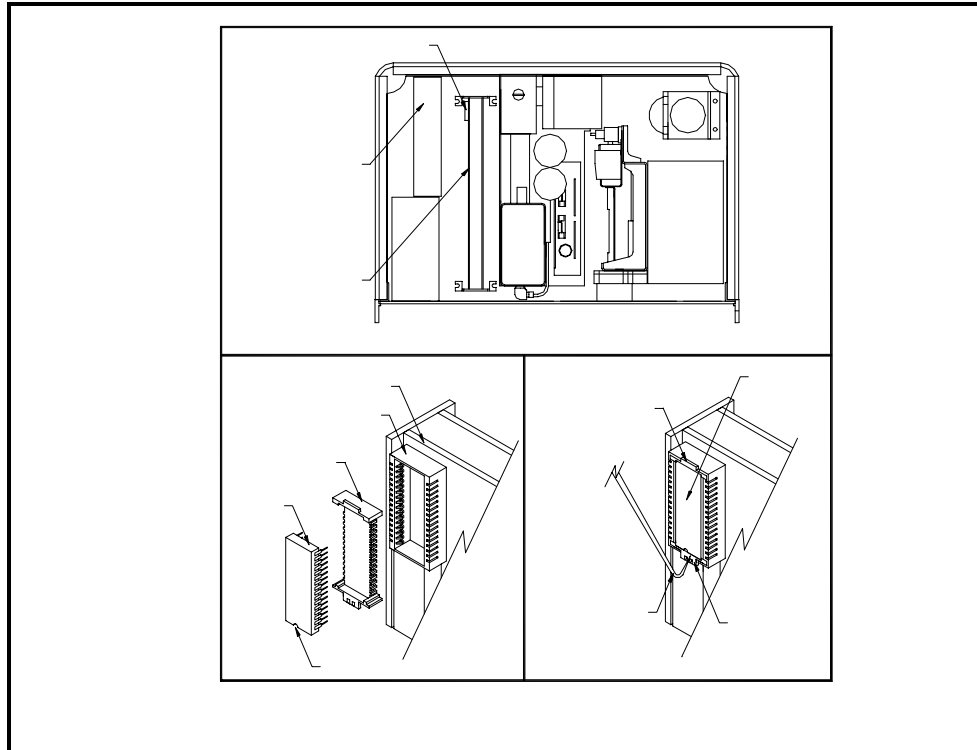

FIGURE D-3: Low Profile Socket Replacement
3. Depending on the type of chip holder in the analyzer, different techniques are required to replace the existing EEPROM with the EEPROM labeled 2.11 CBI or later. Facing the analyzer's front panel, locate the IC socket on the left side of the main electronics board near the rear of the analyzer. If the chip socket has a metal lever at the top, it is a Zero Insertion Force socket. If the chip socket does not have a lever, it is a low profile type socket. Figure D-3 illustrates the low profile socket. Use the appropriate instruction below to replace the chip:
The IC socket consists of two parts – the main socket that is soldered to the PC board and the keyed carrier for holding the IC chip; refer to lower left corner of Figure D-3.
lower right corner of Figure D-3. Be sure to pull the chip out straight so as not to damage the IC chip pins.